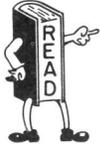

**Fig. 2—KS-19426 Mounting For Walk-Up Outdoor Service With List 39 Mast**
- (a) List 39 mast (Fig. 2) for use on outdoor mounting with canopy.